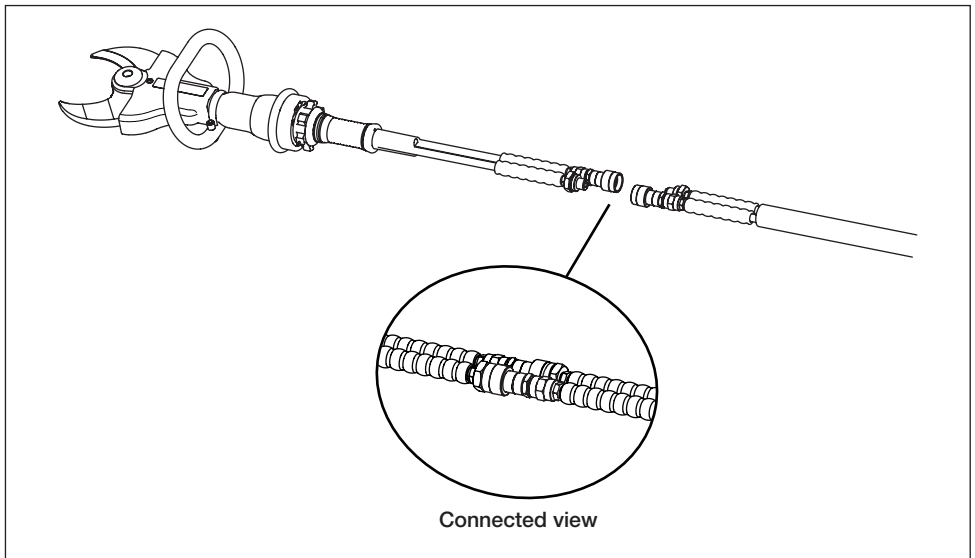

Figure 2, Hydraulic Connections at Cutter
- Repeat steps 3 through 6 for each hydraulic connection. See Figure 2 for hookup details.
Repeat steps 3 through 5 for each hydraulic connection. See Figure 2.